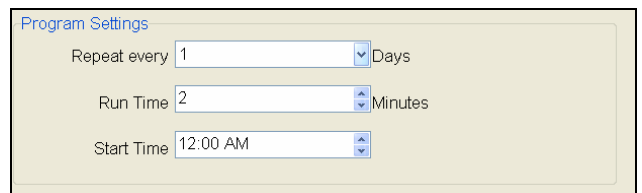

Figure 14.0.4
3. Next you will have to fill in the Program Settings (Figure 14.0.4).